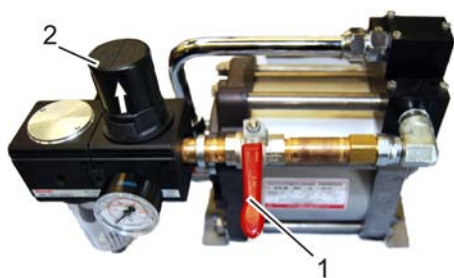

Fig. 20: Compressed air control unit
1. ➔ Keep the ball valve of the compressed air control unit (Fig. 20/1) closed.
The ball valve is closed if its position is perpendicular (Fig. 20/1) to the centre axis.
2. ➔ Pull the pressure regulator (Fig. 20/2) of the manometer upward.